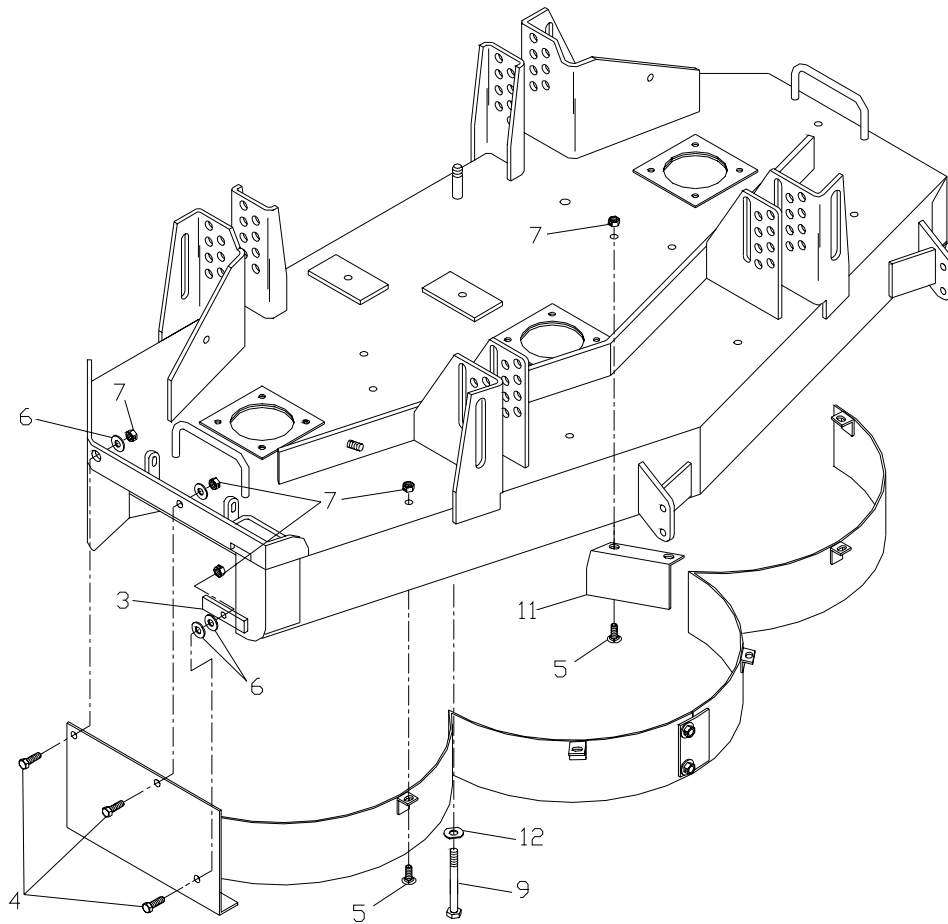

FIGURE 3
Step 3: With the discharge chute up and the two sections bolted together, place the baffle up under the deck and install the carriage bolts(item 5) thru the bottom. (see fig. 3)
Step 4: Using the two 5/16C x 4 1/2" bolt(item 9), flanged washer(item 12), and center lock nut, fasten the 'V' of the baffle to the deck.(see fig. 3) The flanged washer should be turned so the lip catches the front of the 'V' on the baffle.
Step 5: Using two of the 5/16C x 1" bolts(item 4) and washers(item 6) fasten the discharge cover plate to the deck. (see fig. 3)
Step 6: Install the clamp(item 3) as shown in fig. 3. Use a 5/16C x 1" bolt(item 4), two 5/16 washers(6), and a 5/16C nut(item 7). Make sure both washers(item 6) are between the clamp and the discharge cover and clamp overlaps onto the front corner of the deck as shown. (see fig. 3)
Step 7: Install the center deflectors(item 11) on both sides.(see fig. 3)